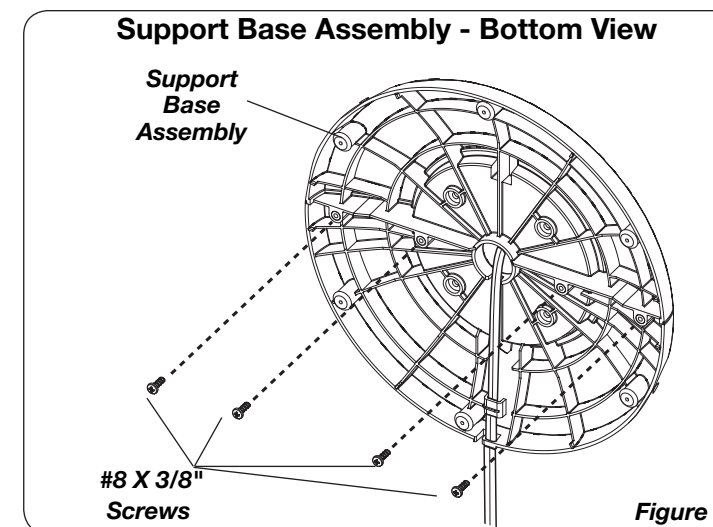

Figure 2
- Secure the (4) #8 X 3/8" **Screws** into the four holes in the bottom of the base. (**Figure 2**)